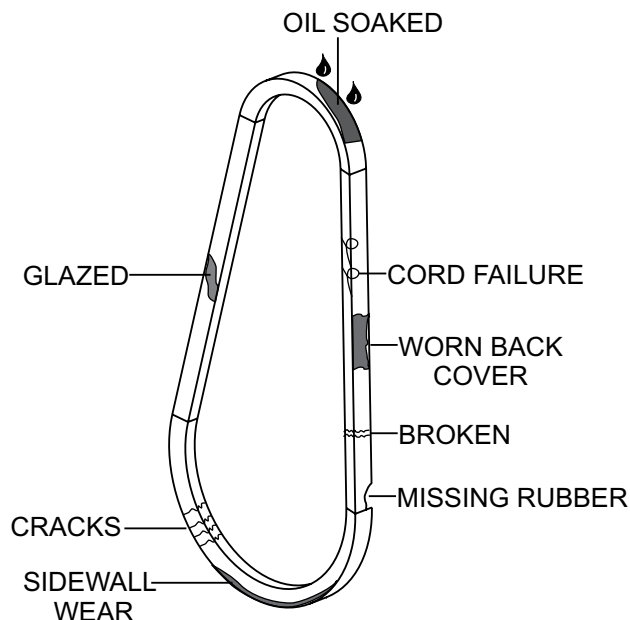

Figure 22. Drive Belt Inspection
2. Once the belt guard has been removed visually inspect both drive belts (Figure 22) for signs of damage or excessive wear. If either drive belt is worn or damaged, replace both drive belts.